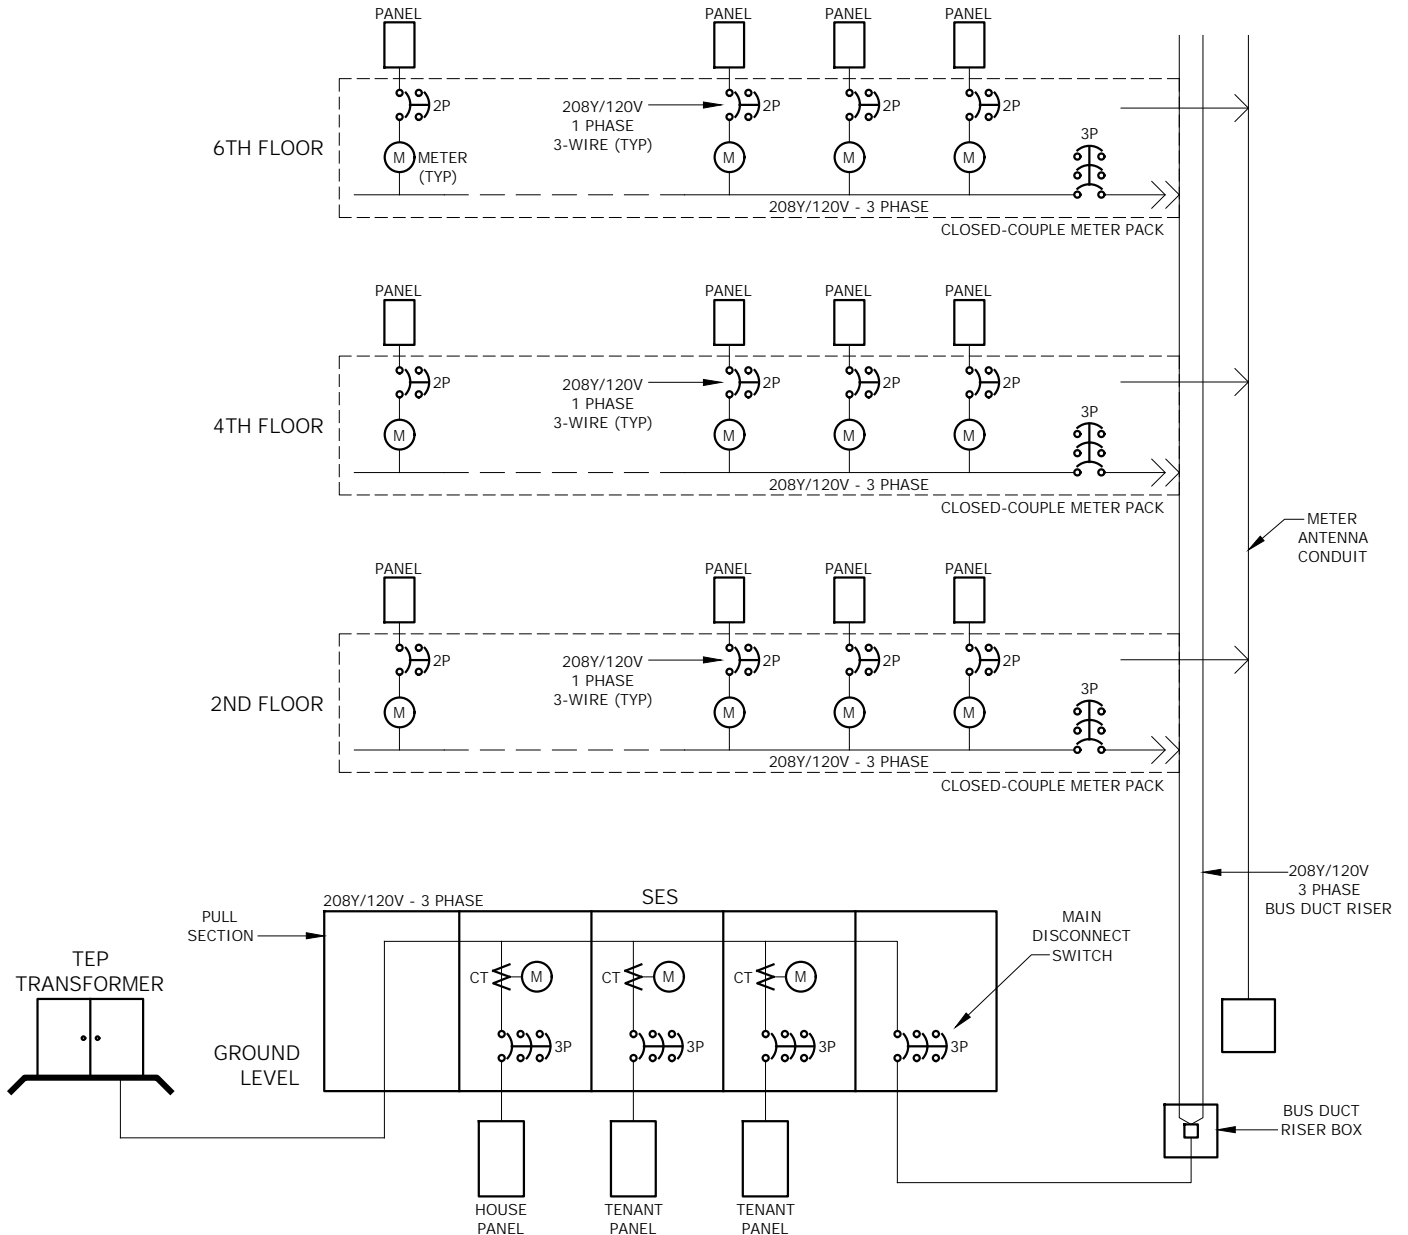

FIGURE 1
- d. See FIGURE 1 for a typical one-line diagram for high-rise residential building metering.